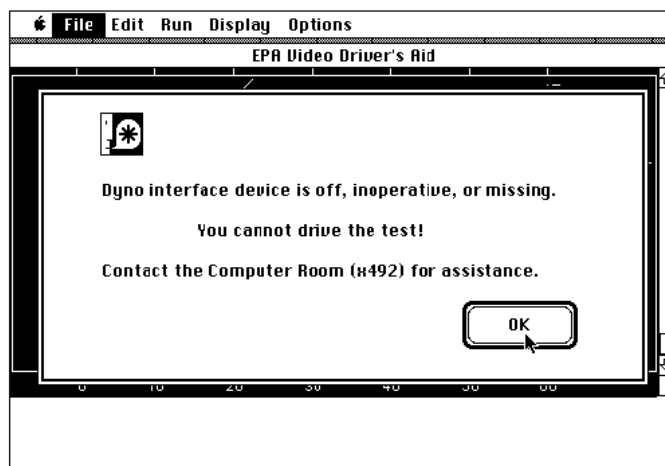

Figure 14
- 14.0 If the warning "Dyno interface device is off, inoperative, or missing" appears on the screen, contact the Computer Room for assistance. See Figure 14.